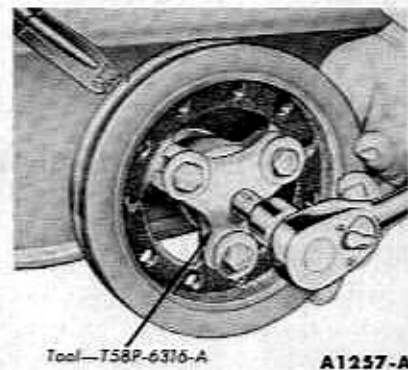

FIG. 19—Crankshaft Damper Removal
7. Install the puller on the crankshaft damper (Fig. 19) and remove the damper.